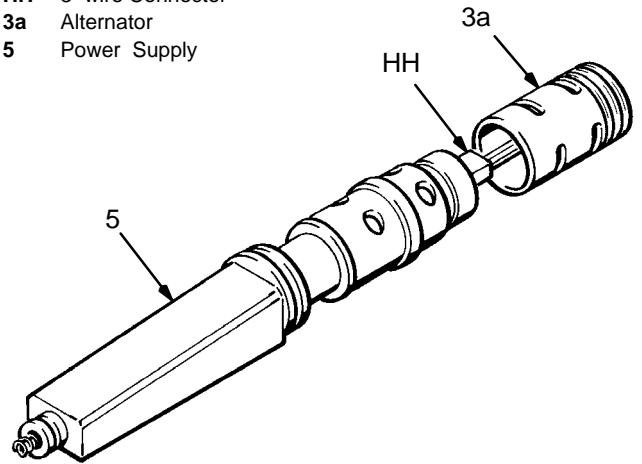

Fig 19
2. Carefully twist the turbine alternator (3a) counter-clockwise and pull it off the power supply (5) until just disengaged from the coupling. Then continue to slowly pull the turbine alternator away from the power supply, disconnecting the 3-wire connector (HH). See Fig 19.
3. Using an ohmmeter, test the coil in the turbine alternator (3a). Measure the resistance between the two outer terminals of the 3-wire connector (HH). The resistance should be 3–5 ohms. If the reading varies from this value, replace the alternator.
4. Measure the resistance between each outer terminal of the 3-wire connector (HH) and the turbine alternator housing. The resistance should be infinite. If the resistance is not infinite, replace the alternator.
5. Partially connect the 3-wire connector (HH) onto the prongs inside the power supply (5). See Fig 19. Using a small screwdriver, push the connector onto the prongs until seated.